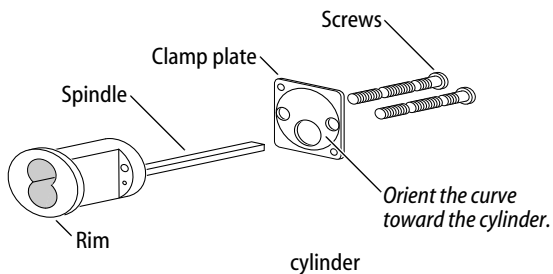

Figure 10b Rim cylinder components
- 3 Orient the cylinder and clamp plate as shown in Figure 10b. From the inside of the door, secure the cylinder using the clamp plate and mounting screws.